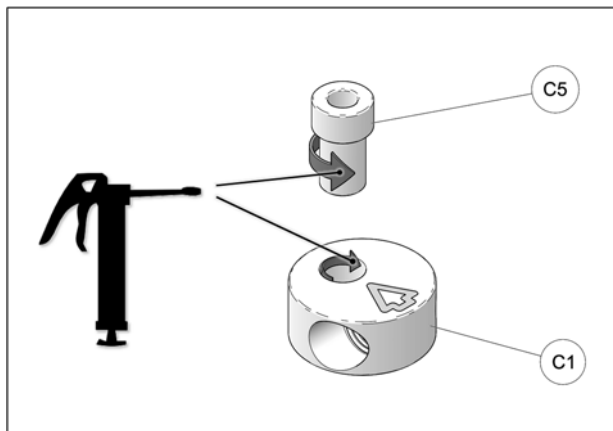

Fig. 19
- Apply grease evenly all around step spacer bushing (C5) and in hole of aluminum disk (C1) when assembling these parts together. See Fig. 19